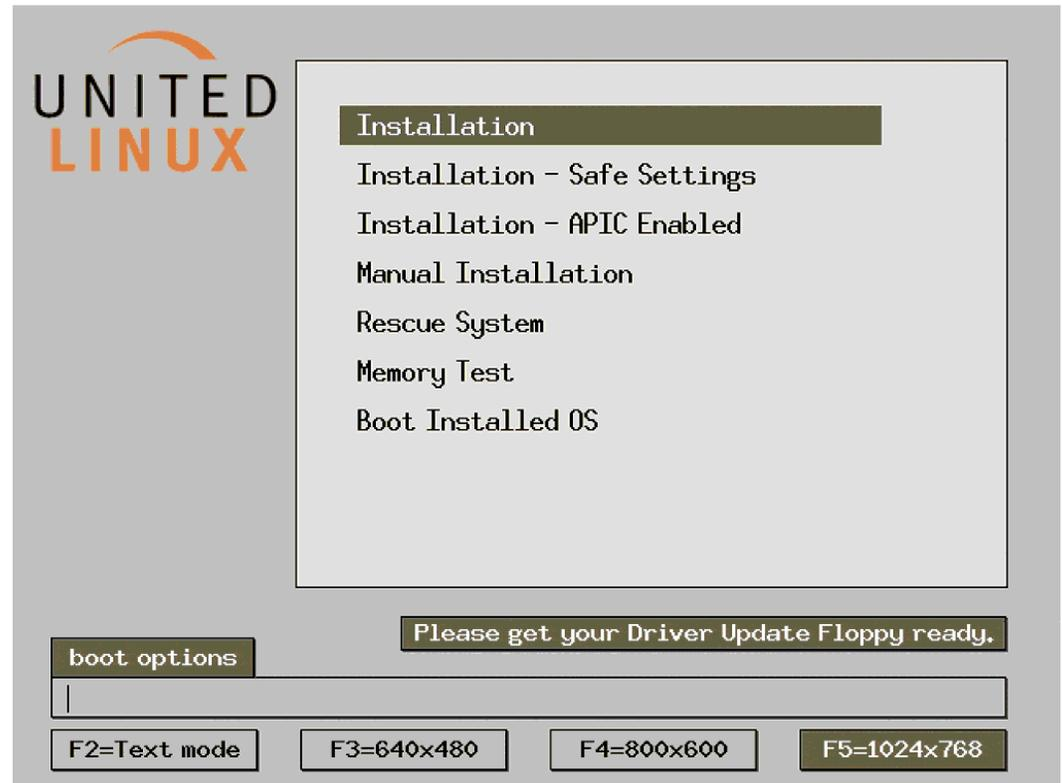

Figure 5-13: Boot Prompt
3. Select **OK** and prepare to press the **Alt** key when the boot prompt screen appears (Figure 5-13).
4. Press the **Alt** key when the boot prompt screen appears (Figure 5-13).